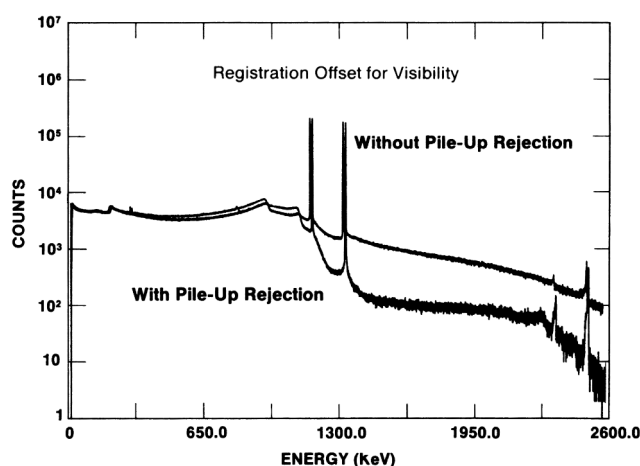

Fig. 3. Demonstration of the Effectiveness of the Pile-Up Rejector in Suppressing the Pile-Up Spectrum. See Pulse Pile-Up Rejector specification.
counting rates (Fig. 3). The fast amplifier in the pile-up rejector includes a gated baseline restorer with its own automatic noise discriminator. A multi-color pile-up rejector LED on the front panel indicates the throughput efficiency of the amplifier. At low counting rates the LED flashes green. The LED turns yellow at moderate counting rates and red when pulse pile-up losses are >70%.
**Pulse Pair Resolution** Typically 500 ns. Measured using the  $^{60}\text{Co}$  1.33-MeV gamma ray under the following conditions: 10% efficiency germanium detector, 4-V amplitude for the 1.33-MeV gamma ray at the unipolar output, 50,000 counts/s (Fig. 3).